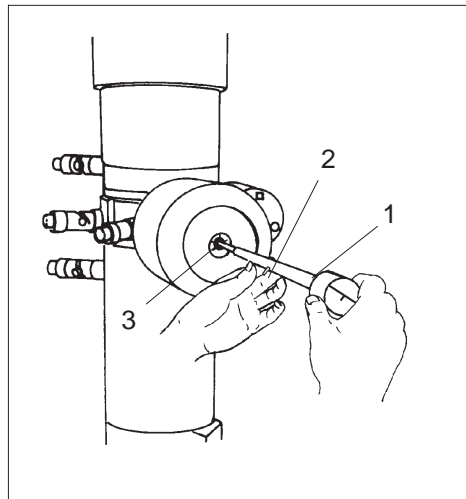

Fig. 4-3a: Insertion of specimen rod
- **Slide specimen rod (1) carefully into goniometer as far as it will go. Pin (2) of specimen rod engages notch (3) on goniometer (Fig. 4-3a).**